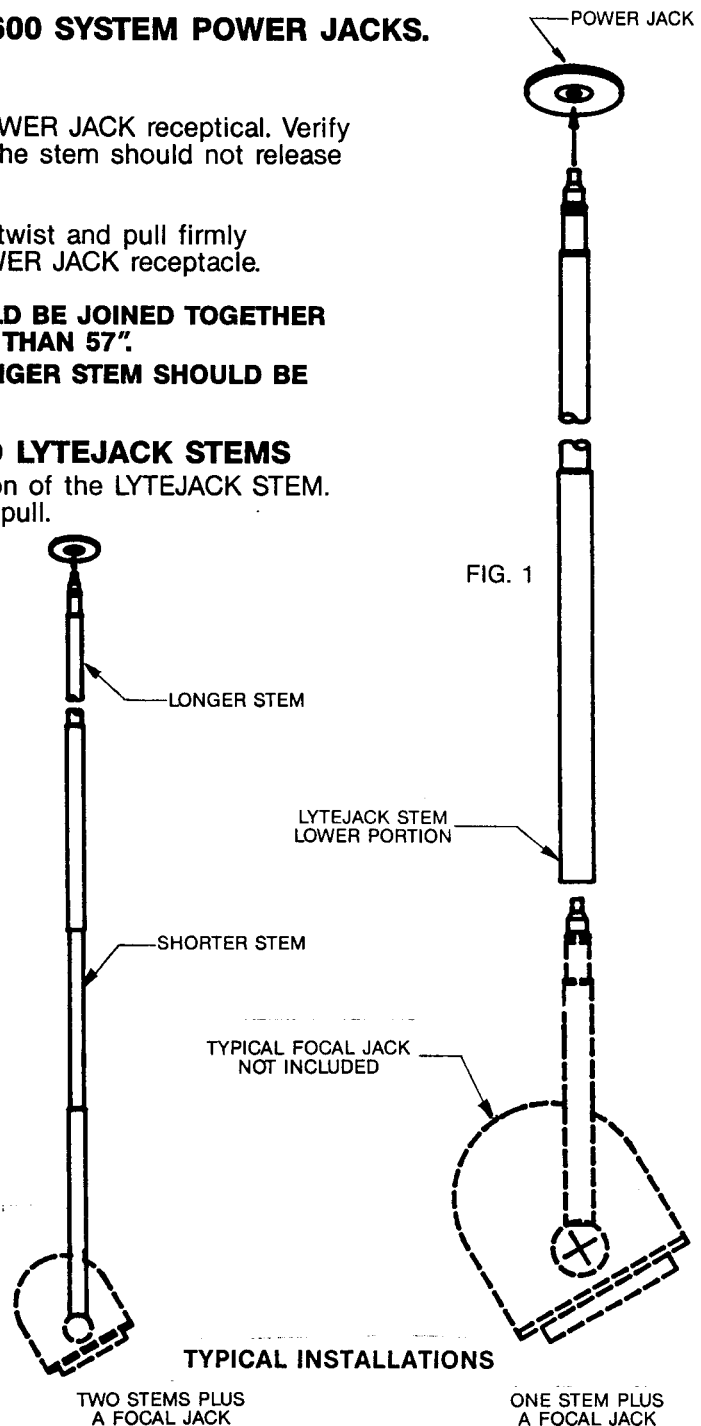

FIG. 1
1. Insert the top of the stem (Fig. 1) fully into the POWER JACK receptacle. Verify engagement by exerting a LIGHT downward pull. The stem should not release from the POWER JACK.